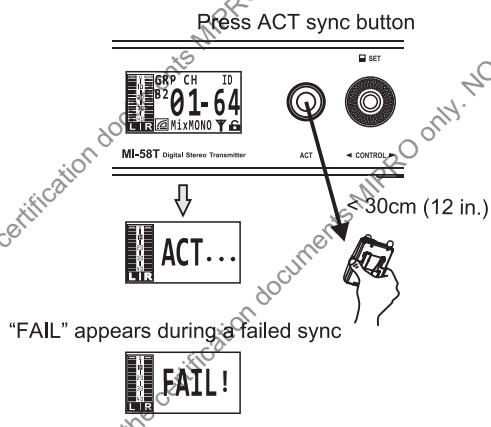

Fig. 19
(B) Caution 2: Load or Send actions should be completed by ACT (as Fig. 19). Ensure to bring the ACT sync window of the transmitter close to the receiver and then press the rotary knob, the screen displays “ACT...” to denote synchronization. Wait until “ACT...” disappears, and the data transmission is completed.